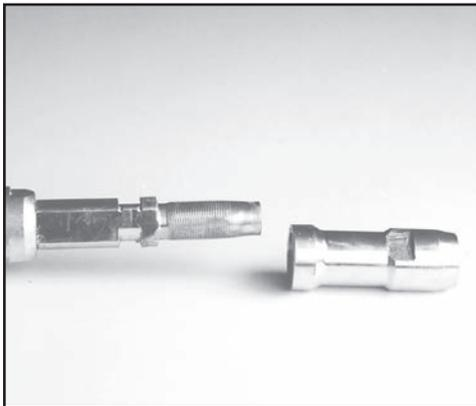

**FIG. 41: REMOVE EXHAUST RING**
3. Remove exhaust ring and inspect for damage or wear (see Fig. 41).